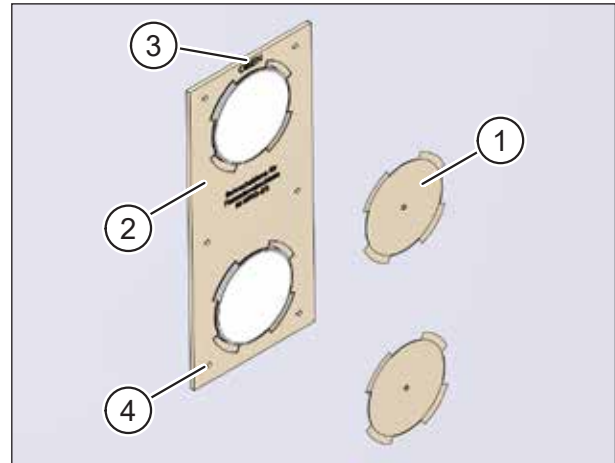

Fig. 16: Drilling the holes
- ▶ Press the pre-punched cut-outs (item 1 in Fig. 16) for the ventilation pipes out of the drilling template (item 2 in Fig. 16).
- ▶ Position the drilling template (item 2 in Fig. 16) correctly on the ventilation pipes and flush with the facade.
- Note the “OBEN (TOP)” (item 3 in Fig. 16) printed on the drilling template.
- ▶ Use the 6 mm masonry bit to drill six holes, roughly 40 mm deep, in the external wall at the points indicated on the drilling template (item 4 in Fig. 16).